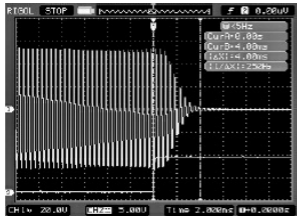

Figure A2.8 — Transceiver un-key/RF output timing detail viewed on the Rigol DS1052E.
**A2.7)** and on un-key, RF is still being output about 4 ms after the amp key line has gone high (**Figure A2.8**).